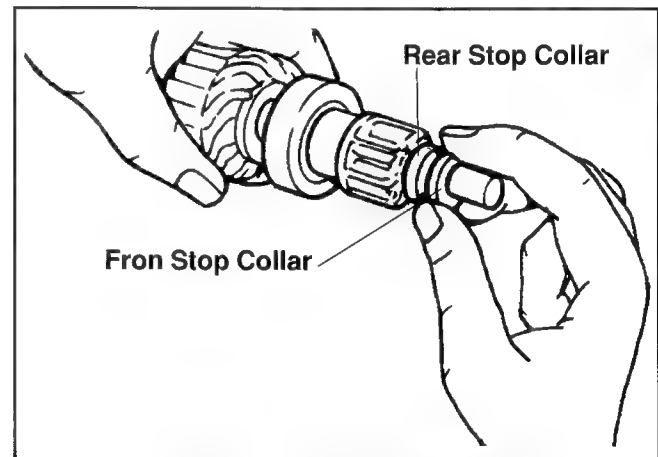
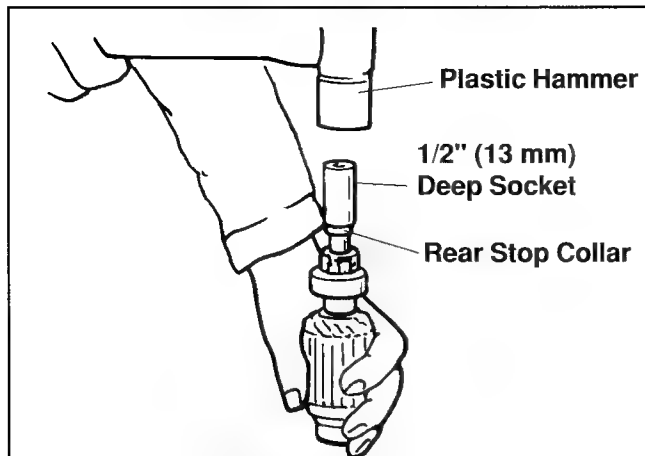

Figure 8-22. Removing the Front Stop Collar.
Figure 8-23. Separating the Rear Stop Collar From the Retainer.
8. The stop collar consists of two pieces. The rear stop collar is held in place by being snapped over a retainer. The retainer is held in place by a groove in the armature shaft. The front stop collar rests against the rear stop collar. Slide the front stop collar off of the armature shaft. See Figure 8-22. Use a 1/2" or 13 mm deep socket and plastic hammer and tap the rear stop collar down to separate it from the retainer. See Figure 8-23.